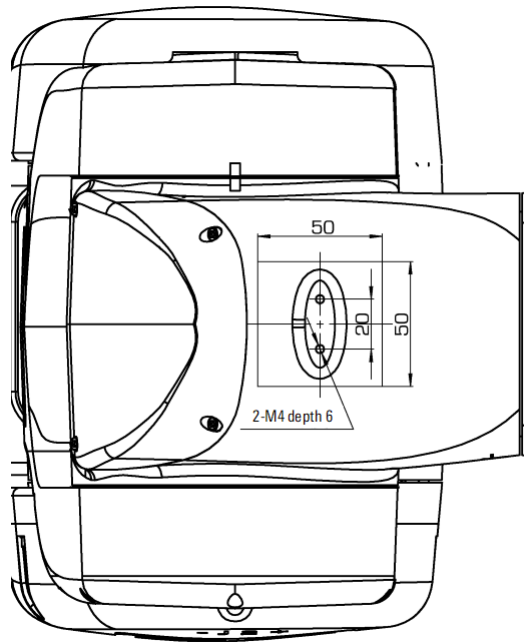

Figure 9-5 AIR8-710A type manipulator elbow load interface size diagram
The specifications and dimensions of the equipment mounting holes of the J3 axis elbow of the AIR8-710A type operating machine are shown in Figure 9-5.
- The position of the center of mass of the elbow load must be within the 50mm×50mm area shown in Figure 9-5.